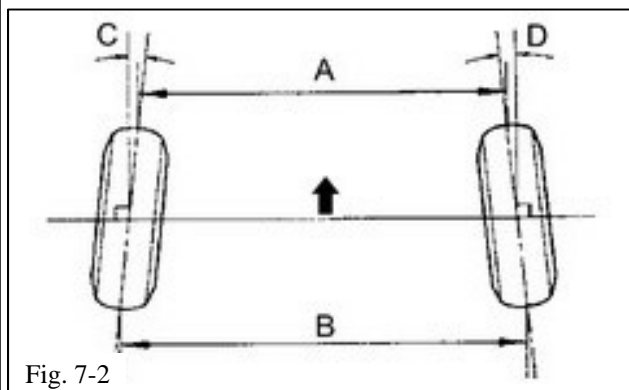
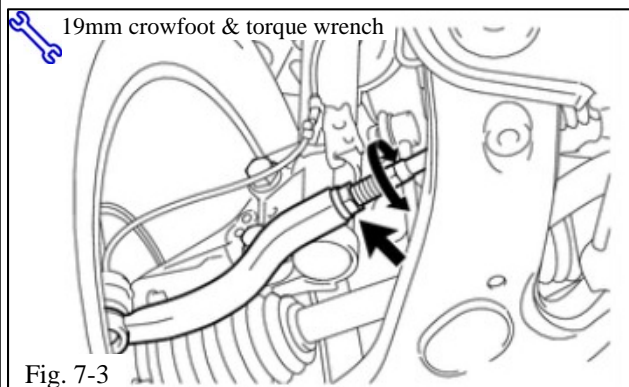

Fig. 7-2
Fig. 7-3
- Measure the toe (Fig. 7-2). If necessary, adjust it by loosening the tie rod locking nuts and turning the inner tie rods (Fig. 7-3).
(d) Use a 19mm crowfoot to torque the locking nuts, taking care not to upset the final readings (See Fig. 7-3).